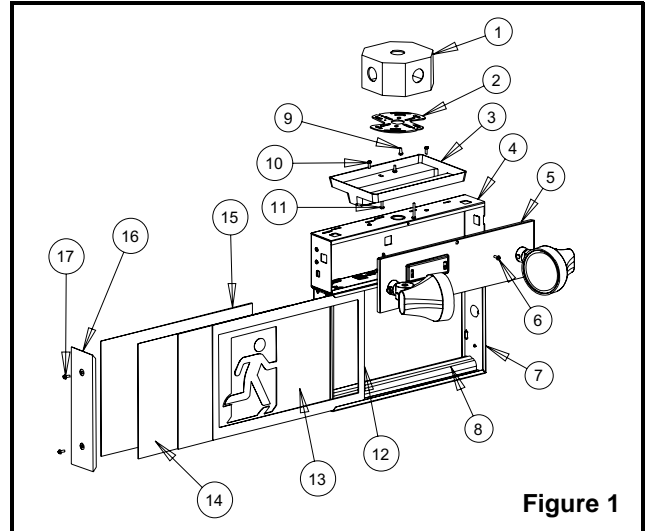

Figure 1
3. To open the unit, remove the screws from the end cap (see figure 1) and slide out the clear panel with border, the two pictogram panel(s) and the opal diffuser (note sequence of panels removed).